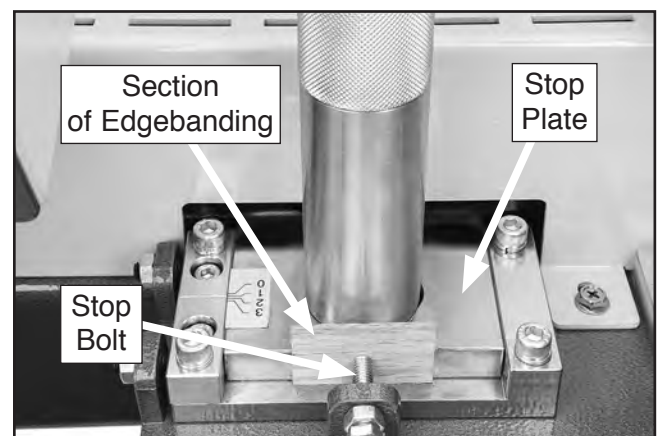

Figure 49. Using infeed fence stop to set infeed fence position.
With this method, you place a scrap piece of the edgebanding you intend to use between the stop bolt and stop plate (see **Figure 49**), then adjust the fence until the stop plate presses firmly against the scrap piece.
2. Loosen infeed fence adjustment lock lever, then rotate knurled cylinder to create a gap between stop plate and stop bolt (see **Figure 49**).
3. Place scrap piece from **Step 1** between stop bolt and stop plate, as shown in **Figure 49**.